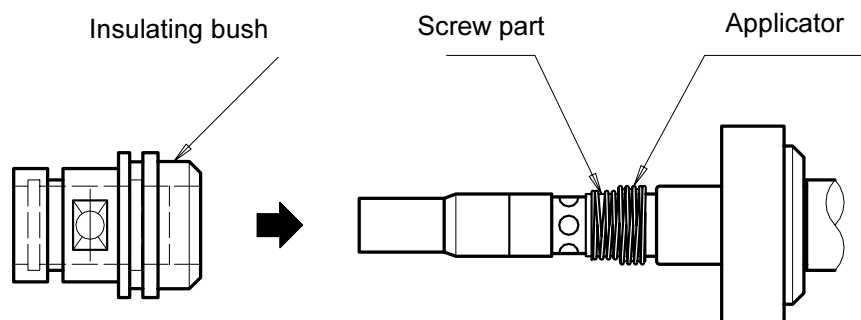

Fig.3.19 Replacement of O-ring
- (8) The shock sensor is the mechanism to protect the torch and manipulator in the case of collision between the torch and workpiece, but does not guarantee the accuracy of the torch tip teaching point (torch aiming point) afterward. After the shock sensor has worked, check the aiming point of torch again with the torch gauge.
- (9) When the screws (M5×20) fixing the torch are loose, the torch tip position will be off. Tighten the screws using the proper torque value. (See the pages 8, 9 and 13.)
- (10) When replacing the O-ring of liquid-cooled torch, take enough care not to hurt the O-ring inside the insulating bush by the screw part of tip body. (Refer to Fig.3.19)